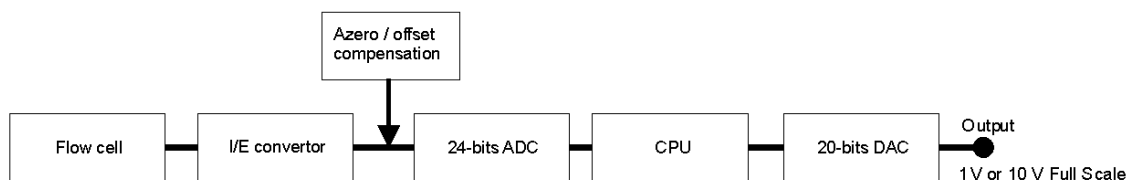

Fig. 7. DECADE II SDC signal processing from electrochemical flow cell to output.
At the working electrode (WE) in the electrochemical flow cell the electron transfer takes place due to an oxidation or reduction reaction. The resulting electrical current is amplified by the current-potential (I/E) converter (Fig. 7).